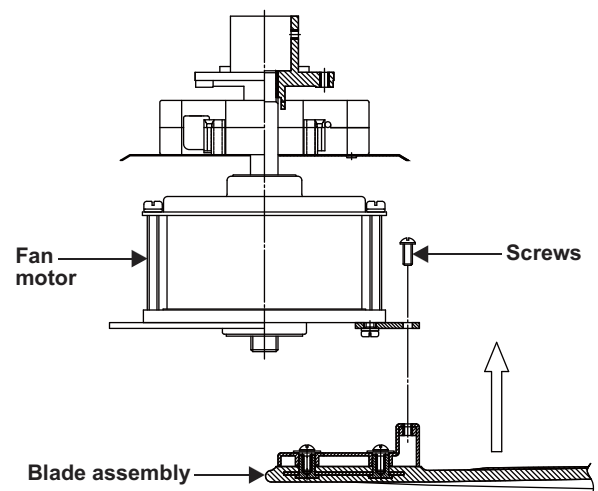

Figure 6
3. Fasten the blade assembly to the fan motor using the blade screws supplied. Repeat process with other blades. Tighten each screw and make sure the blade is straight. (Fig. 6)
1. Connect the fan supply (black) wire to the black household supply wire as shown in Figure 6.